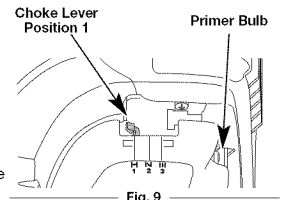
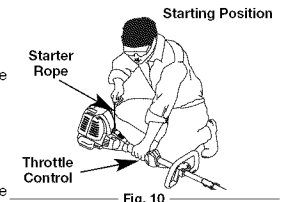

Fig. 9
Fig. 10
WARNING: Avoid accidental starting. Make sure you are in the starting position when pulling the starter rope (Fig. 10). To avoid serious injury, the operator and unit must be in a stable position while starting. Make sure that any Add-On item is installed correctly and secure before starting the unit.
- Fully press and release the primer bulb 10 times, slowly. Some amount of fuel should be visible in the primer bulb (Fig. 9). If fuel cannot be seen in the bulb, press and release the bulb until fuel is visible.
- Move the choke lever to **Position 1** (Fig. 9).
- Crouch in the starting position (Fig. 10). **SQUEEZE and HOLD the throttle control for ALL further steps.** Pull the starter rope 5 times.
- Continue to squeeze the throttle control.** Move the choke lever to **Position 2** (Fig. 9).
- Continue to squeeze the throttle control.** Move the choke lever to **Position 3** (Fig. 9).
- Crouch in the starting position (Fig. 10). Place the electric starter or Power Start Bit™ into the back of the unit. Refer to the *Operation* section of the Electric Starter or Power Start Bit™ operator's manual.
- SQUEEZE and HOLD the throttle control for ALL further steps.** Press and hold the electric starter or drill ON (I) button for 2 seconds.
- Continue to squeeze the throttle control.** Press and hold the electric starter or drill ON (I) button for 2-second intervals until the unit starts.